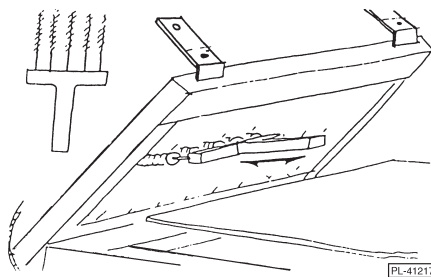

Fig. 16
11. Clean and sanitize the Rear Blades (Fig. 16) using the cleaning brush provided with the bread slicer and a sanitizing product. Place a towel under the blades to catch any drips. Tilt the Rear Blade Frame back up and put the straps over the threaded studs.